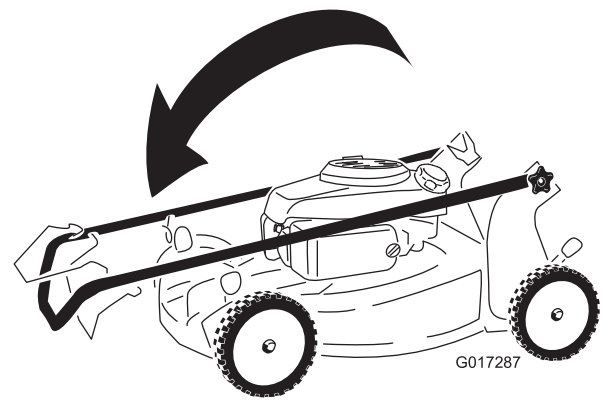

Figure 17
2. Fold the upper handle forward as shown in Figure 17.